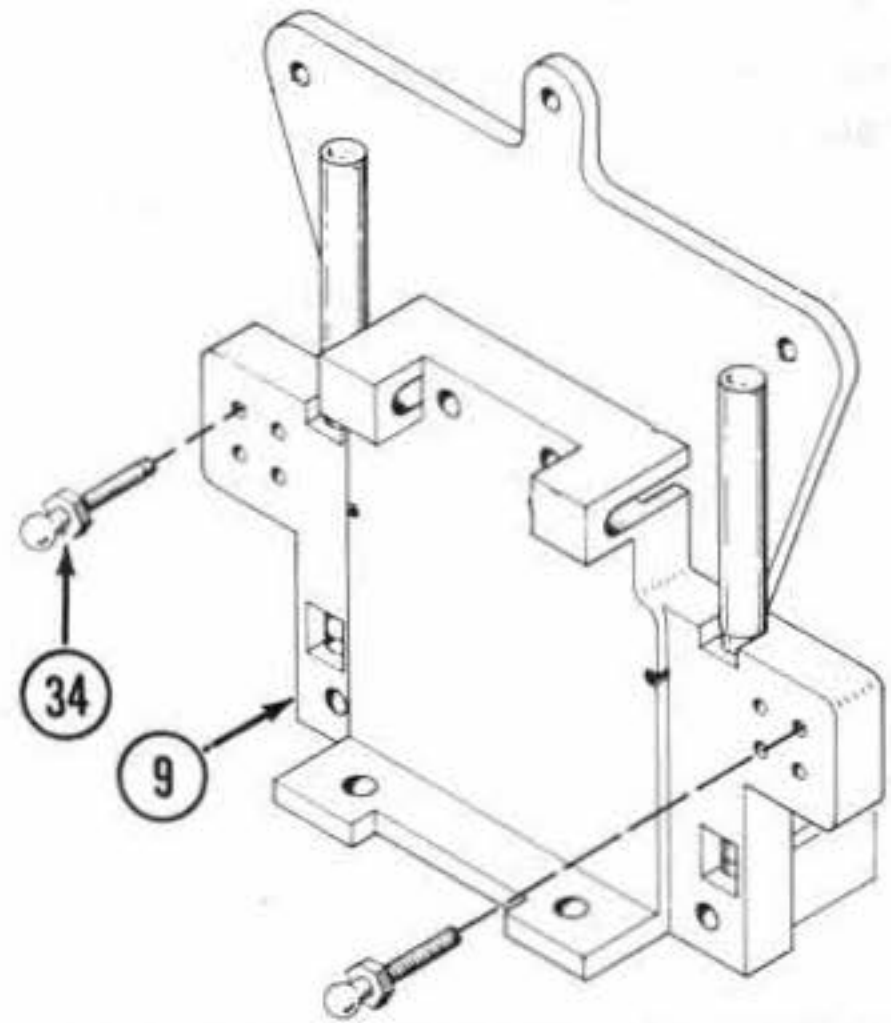

FIG.16
2. Install 3/8" studded ball joint (34) pointing rearward in top outside hole of rear bulkhead (9) as shown. Fig.16